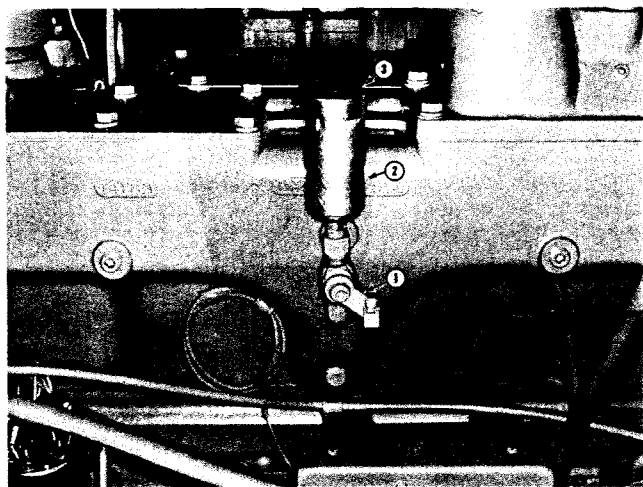

Fig. 1-6, (N11841). Ether compound metering equipment
1. Close shut-off cock (1, Fig. 1-6). If properly installed, the spring will hold it closed.